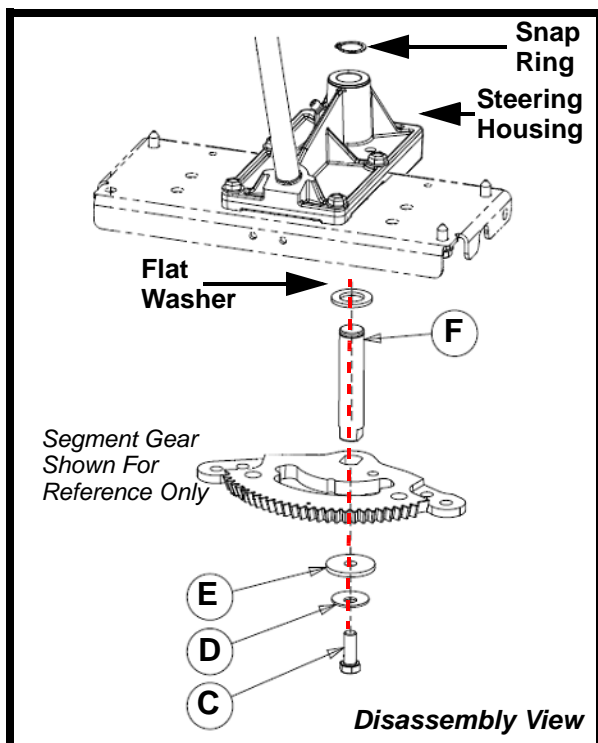

FIGURE 3
5. Remove items **C**, **D** and **E** shown in Figure 3 and discard. Retain the segment gear.
6. Carefully remove the steering shaft, item **F** from the steering housing shown in Figure 3.
7. Remove the snap ring from the steering shaft, item **F** shown in Figure 3. Discard the steering shaft.
8. Retain the snap ring shown in Figure 3.
NOTE: Do not lose the flat washer shown in Figure 3, that is located between the segment gear and bottom of the steering housing.